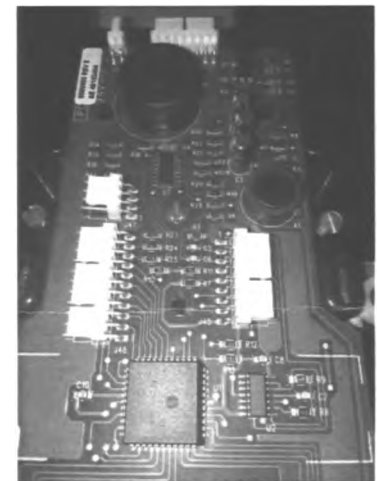

Figure 8
14. Install the new display on the new panel using two screws from the old panel. (Fig. 8)